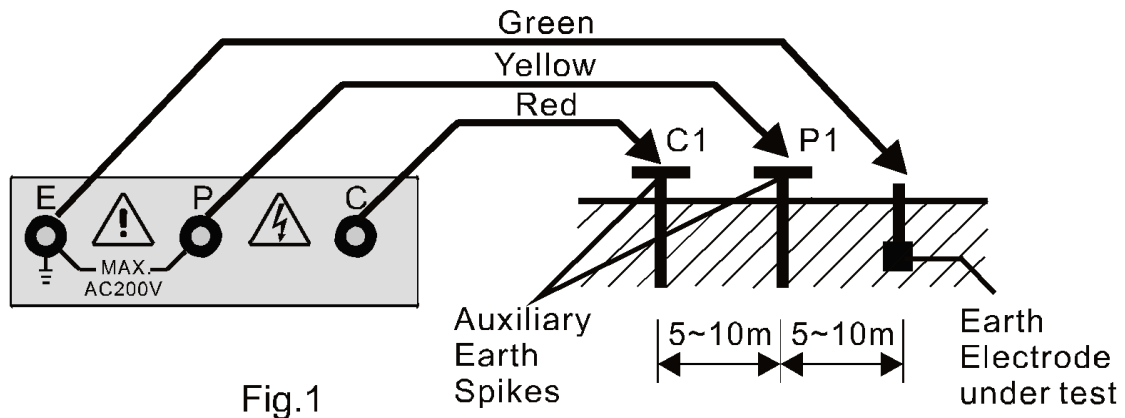

Fig.1
- (1) Connect green, yellow and red test leads to instrument terminals E, P and C with auxiliary earth spikes P1, C1 inserted into earth "IN A STRAIGHT LINE". (Fig. 1)
- (2) Rotate the function switch to the proper range, then press the push-button to test and take the reading.
(6) Since the measuring current is as low as 2mA, the earth leakage breaker (ELCB) does not trip even if the earth side of the commercial power supply with an ELCB is used.
*** Follow the proper connection as shown in Fig. 1. The LED (red) indicator will be lit. This proves that a correct current circulation is under its operation.**